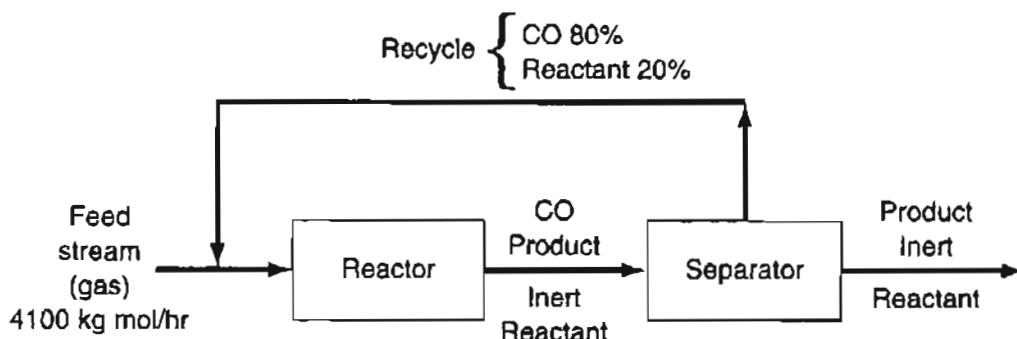

Figure P12.27
- *12.27* Many chemical processes generate emissions of volatile compounds that need to be controlled. In the process shown in Figure P12.27, the exhaust of CO is eliminated by its separation from the reactor effluent and recycling of 100% of the CO generated in the reactor together with some reactant back to the reactor feed.